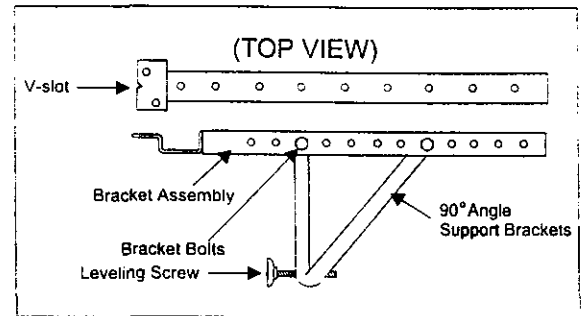

Fig 13
A. Attach the **bracket assembly** to **90° angle support brackets** (Fig 13) using (2) **1 1/2" bolts**.